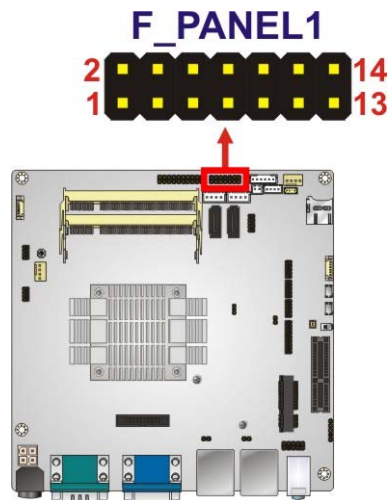

Figure 3-10: Front Panel Connector Location
- CN Location:** See Figure 3-10